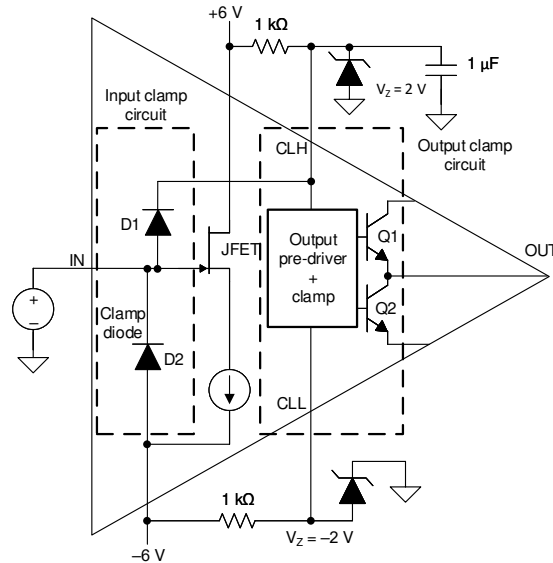

Figure 7-1. Internal Input and Output Overvoltage Clamp
- Figure 7-1 shows the input of the BUF802 tied to pins CLH and V_{S-} through two internal clamp diodes, D1 and D2. The diodes are rated for 100 mA of continuous current but withstand much higher transient currents. If the JFET input voltage exceeds the voltage at CLH or V_{S-} , the diodes get forward biased, clamping the JFET to CLH and V_{S-} . A 1- μ F capacitor connected in parallel to the zener diode helps in transient absorption traveling through the D1 diode.